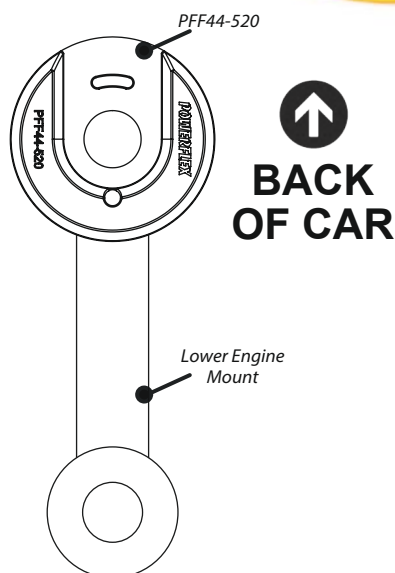

Figure 1
3. Press the polyurethane bush into the bore of the engine mount with the flat slot end of the bush facing towards the back of the car (Figure 1).